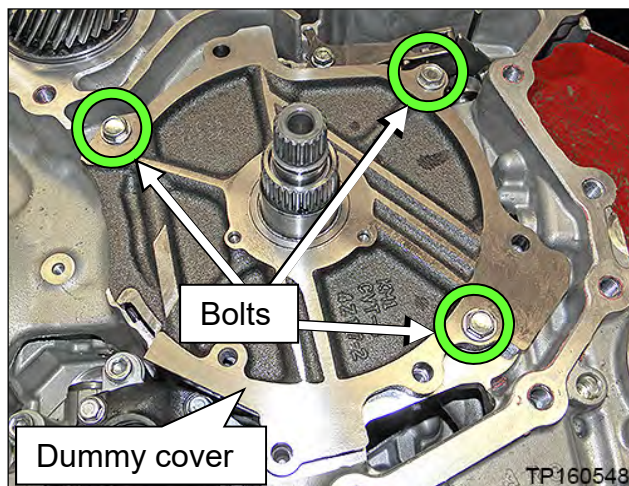

Figure 63
46. Temporarily install the dummy cover with 3 bolts, finger tight (Figure 63).